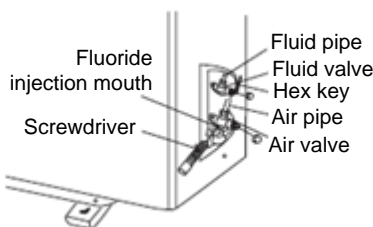

Figure 7-3 Opening the fluid valve and air valve
(1) Use a refrigerant in the outdoor unit:
① Remove the valve cap and the fluoride injection mouth nut from the fluid valve and the air valve.
② Use a hex key to slightly unscrew the valve plug of the fluid valve, and use a screwdriver to jack up the valve core of the air valve. Then, the air is discharging.
③ Discharge the air for about 15 seconds. When there is refrigerant gas discharged, close the valve core and tighten the fluoride injection mouth nut.
④ Fully open the valve cores of the fluid valve, and the air valve, as shown in Figure 7-3.
⑤ Tighten the valve cap, and then use a leak detector or soapy water to check whether the pipes for connecting the outdoor unit and the water tank leak.